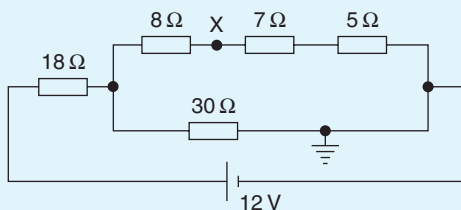

Figure 5.38
2. For the circuit shown in Fig. 5.38, calculate (a) the voltage drop across the  $7\ \Omega$  resistor, (b) the current through the  $30\ \Omega$  resistor, (c) the power developed in the  $8\ \Omega$  resistor, (d) the voltage at point X w.r.t. earth, and (e) the absolute voltage at point X.